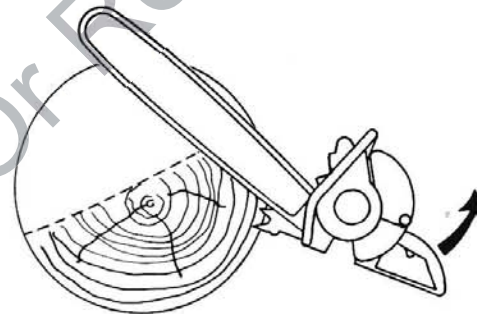

Figure 4—Pivot Action With Straight Blade
(3) Before making a cut, select a path of safe retreat to be used when the tree is falling. Clear all brush and obstructions from this path, and also from the immediate cutting area, so nothing will interfere with the saw. Observers should remain a safe distance from all sawing operations.
(4) Be sure of your balance at all times. When starting a cut always place the spikes against the wood (See Figure 4) before engaging the chain. Otherwise, you may lose your balance as the chain jerks the saw toward the log.
(5) Always stand on the uphill side when bucking a log. When limbing or pruning high branches, do not stand under the branch being cut.
The cutting movement with a straight blade, called "pivot action", is fully explained in Figure 4.
satisfactory cutting can be accomplished using the bottom section. Engage the saw spikes in the wood (same as straight blade sawing) and use pivot action to feed the chain into the wood. (See Figure 4.) If the plunging spur is in the way, remove it by taking out the two screws holding the spur to the chain guide.